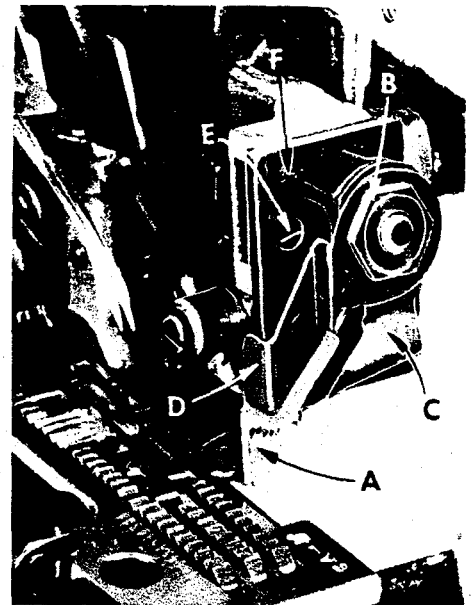

Fig. 13
Replace the upper knife assembly. Clamp upper knife (A, Fig. 13) in position, setting nut (B) to hold clamp (C) in its most clockwise position against upper knife. At the bottom of its stroke, front cutting edge of upper knife should extend not less than  $1/64$  inch below cutting edge of lower knife. The chain guard (D) should be set down against the upper knife and back from the cutting edge.